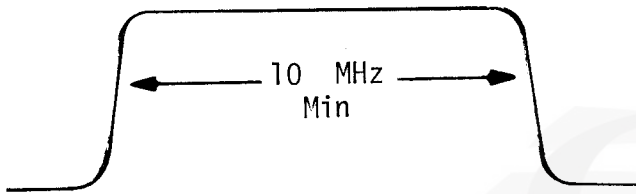

Figure 4-5. Input-Filter Response
4. Adjust receiver filter coils L101, L102, L104 and L105 for a response curve on scope similar to Figure 4-5 below. A slight amount of ripple may be apparent on scope pattern.